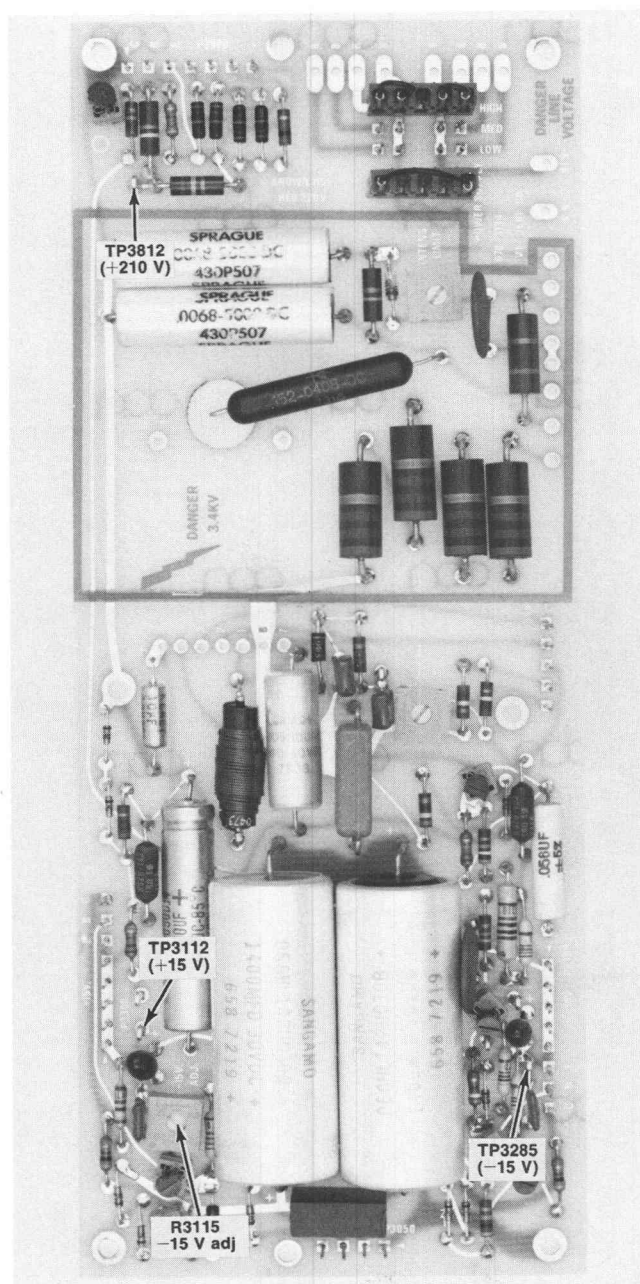

Fig. 3-6. Power supply test points and control.
- Connect the DC Voltmeter between ground and the —15 V test point. (See Fig. 3-6).
- Connect the DC Voltmeter between ground and the ± 15 V test point. (See Fig. 3-6).
- Connect the DC Voltmeter between ground and the +210 V test point. (See Fig. 3-6.)